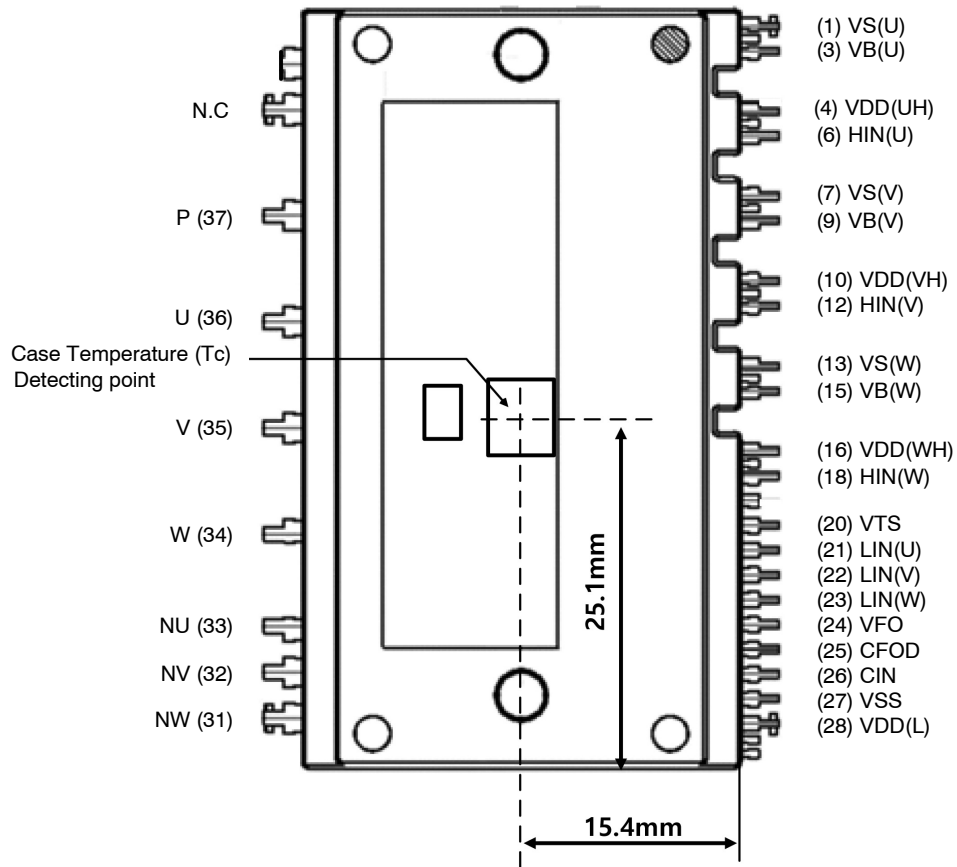

Figure 1. Pin Configuration – Top View
| Tc        | Case Operation Temperature                                                 | See Figure 1                                                                             | -40 ~ 125 | °C               |
3. For the measurement point of case temperature ( $T_c$ ), please refer to Figure 1.